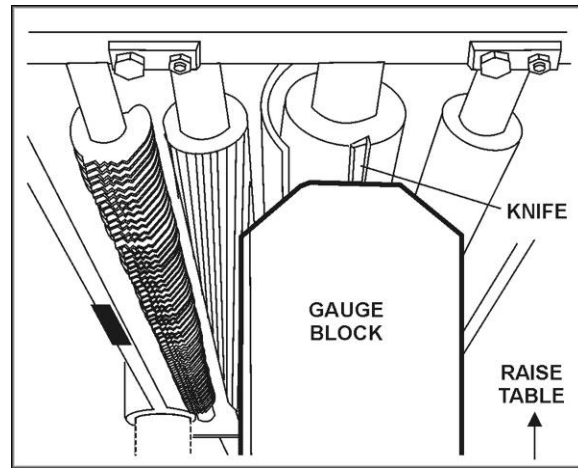

Figure 18
2. Place the gauge block (Figure 18) on the work table directly under the edge of a knife as shown. Make slight contact by gently raising table.